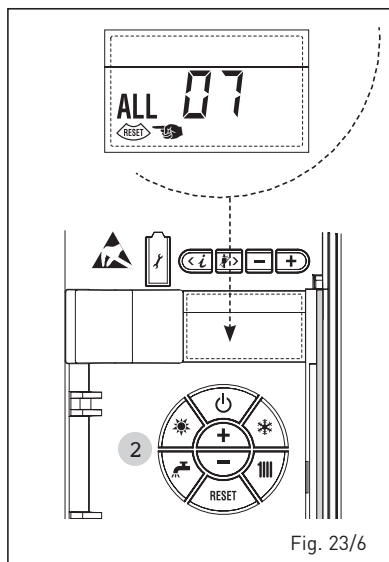

Fig. 23/6
– **ANOMALÍA LLAMA PARÁSITA “ALL 08” (fig. 23/7)**